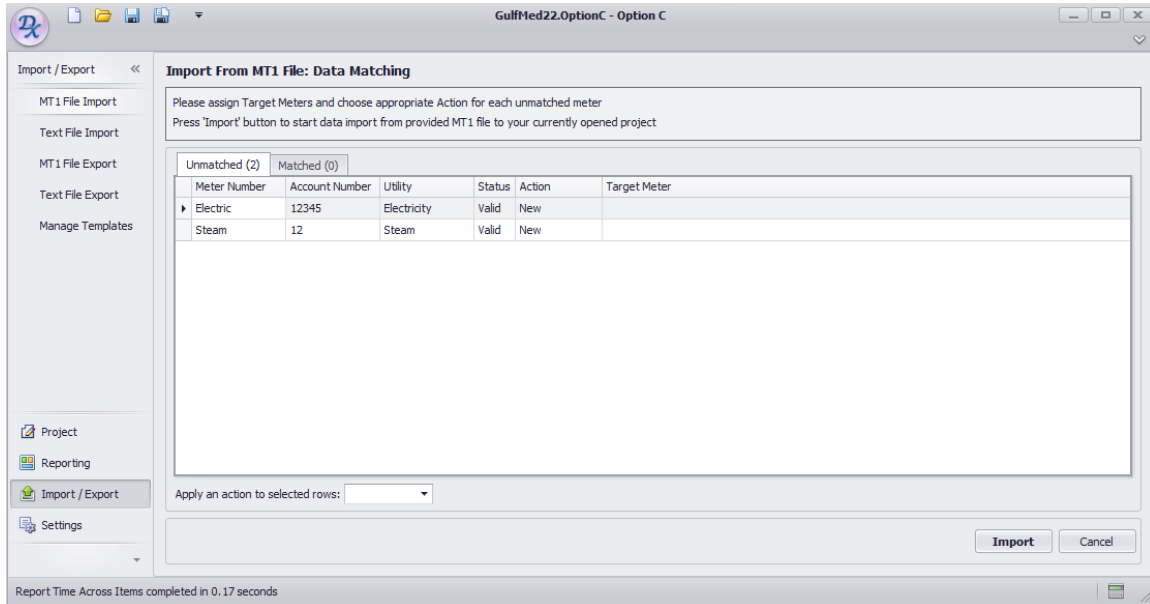

Figure 5.4: Screen reporting Matched and Unmatched imported meters.
2. **Identify meters:** Once the MT1 file has been selected, the window shown in Figure 5.4 will appear. Meters stored in the file will be classified as Matched or Unmatched.
- **Unmatched tab:** any meters that could not be matched are added to the Unmatched list as shown in Figure 5.4.